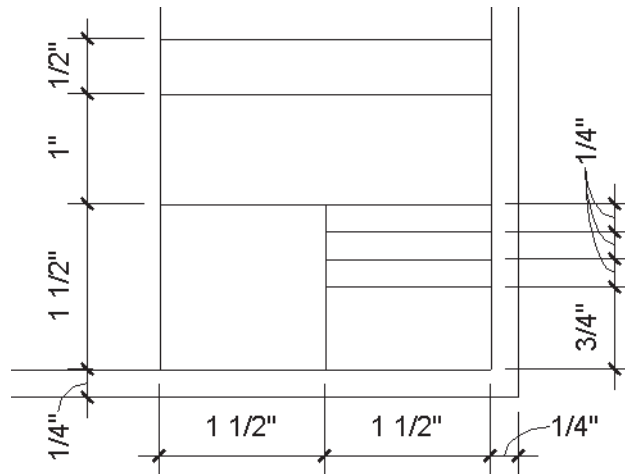

Figure 1–51
4. Draw lines in the lower right corner of the title block, as shown in Figure 1–51.